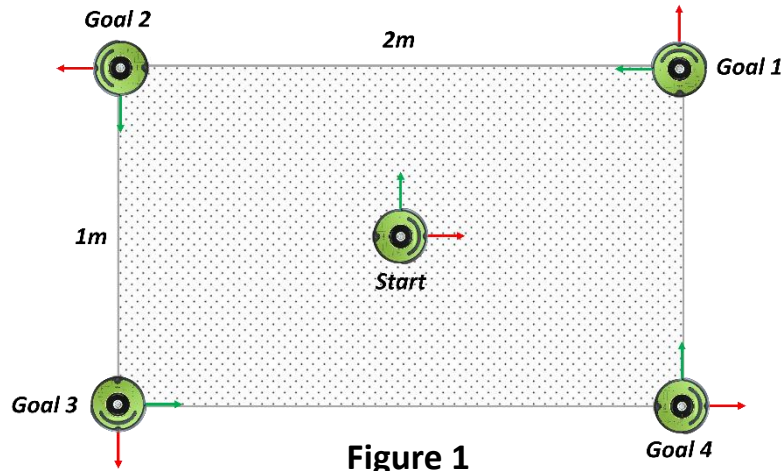
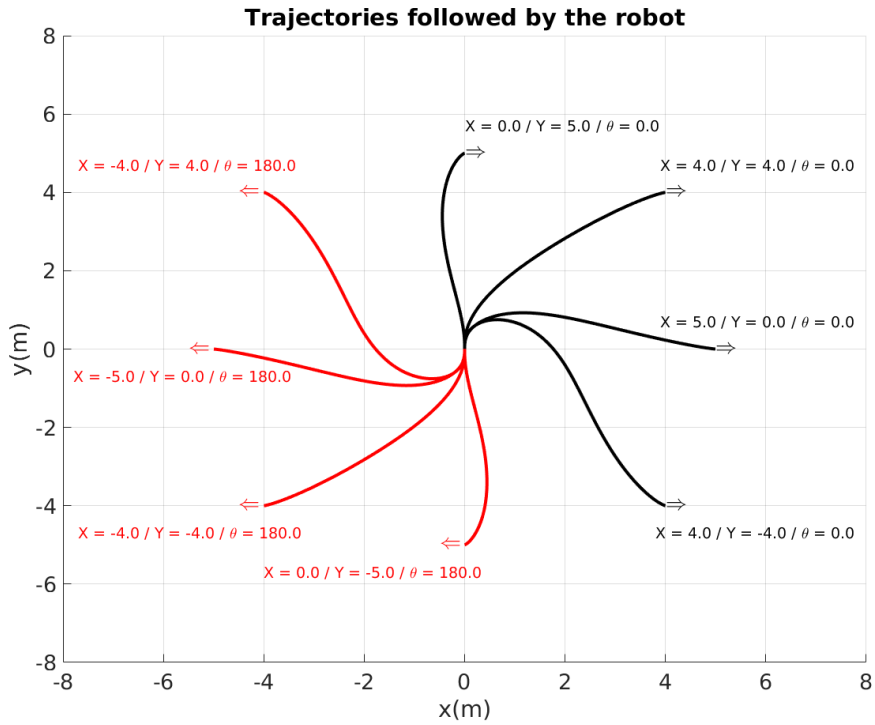

Figure 1
Figure 2
In this part, you will implement the dead reckoning using feedback control and test your program in the simulator (e.g. Stage or Gazebo). You will need odometry information published by the simulator under the /odom topic. Write your program to navigate the robot to the four goal poses as specified in Figure 1 which shows four experiments that need to be performed. For each experiment, report the error measured between the desired goal and the reached goal.
4. Find the right set of $[K_\rho, K_\alpha, K_\beta]$ feedback gains to reproduce Figures 2 and 3 where the robot needs to navigate to 8 final poses from 2 starting poses.
5. Save and plot the robot trajectories as in Figures 2 and 3 to include in your final report.
7. Reproduce the experiments from Part 0 (look at Figure 1).
1. Are the feedback gains tuned in the simulator performing the same with the real robot when trying to reproduce Figures 2 and 3? How about for the experiments from Part 0 (Figure 1) performed in the simulator?
2. Save and plot the robot trajectories as in Figures 2 and 3 to include in your final report.